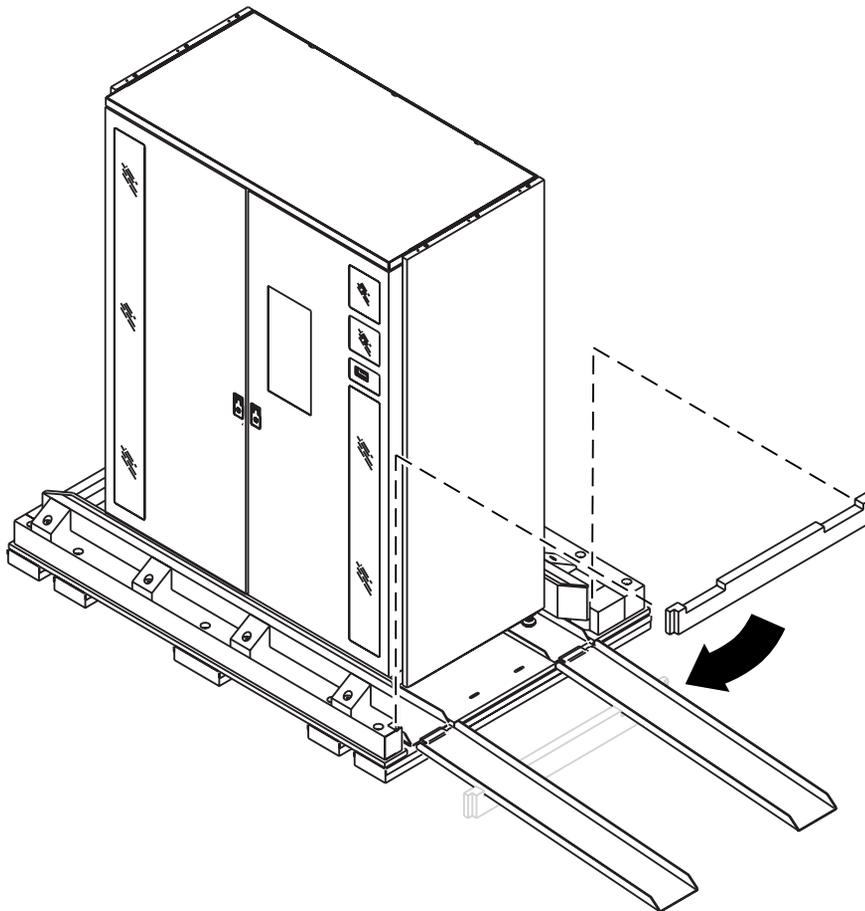

Figure 4-12: Moving the wooden bar
6. Move the wooden bar (see Figure 4-12):